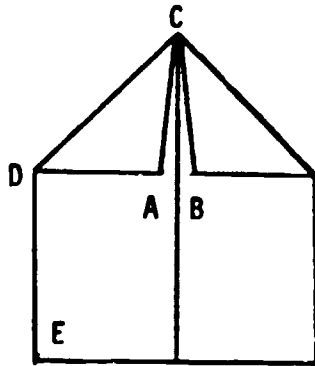
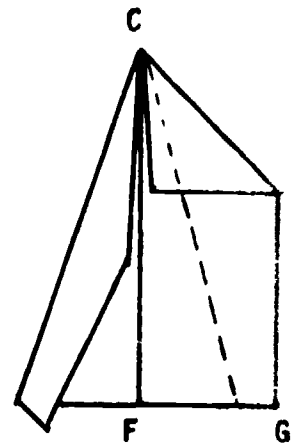

Figure 3
Figure 4
Record the method and the amount of force on your form. (figure 3)
2. Next, place the 2 - foot board to that it rests against the top of the concrete blocks. This board is an inclined plane because it slopes up from the floor to the top of the blocks. Now pull the skate up the board with the spring scale. (Figure 4) How much force does it take? Record it on your form. (See Figure 3)